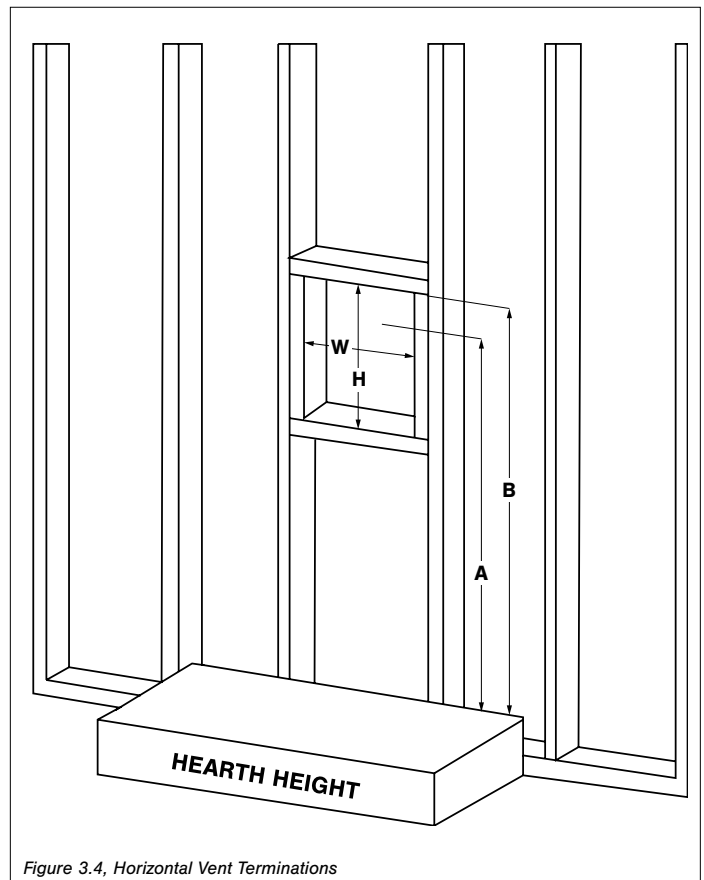

Figure 3.4, Horizontal Vent Terminations
- Refer to Table 3.2, Table 3.3, Table 3.4, Table 3.5, and Figure 3.4 for horizontal vent framing.